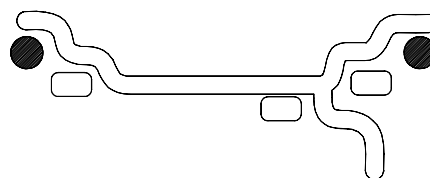

Figure 15
**A. DYNAMIC** (two planes), suggested for all steel rims. In this case the wheel weights must be clipped onto the rim edges. This function is selected as a default and the LEDs corresponding to the wheel weight location are lit on (Figure15).